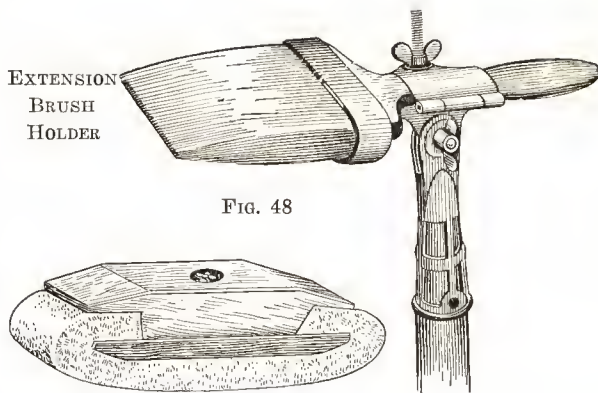

FIG. 48
**Extension Brush Holder:** Figure 48. There are places, one finds occasionally, which are very difficult to reach even with a ladder. For example high places on poles and stack and chimneys. Also there are places which are so obstructed with pipes or some other objects as to be difficult or impossible to reach by ordinary methods. Then this pole brush holder saves time.